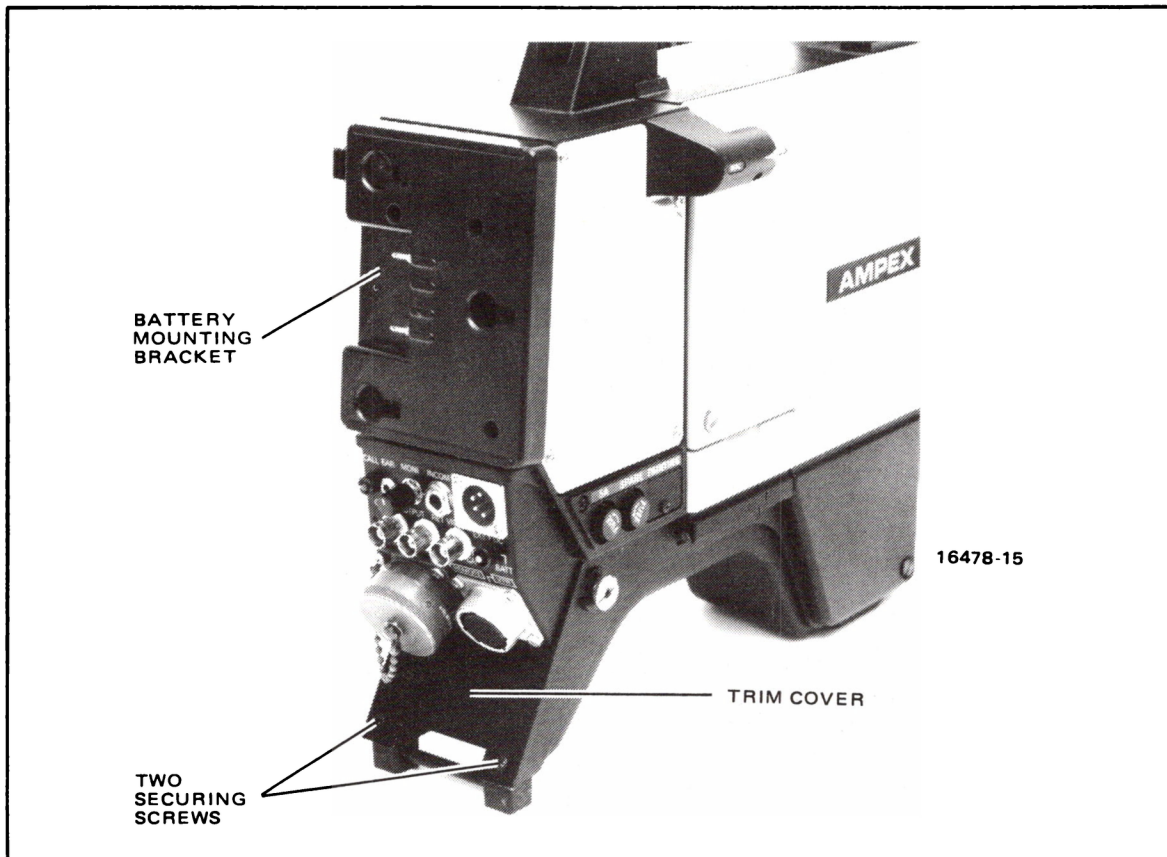

Figure 6-5. Attaching Trim Panel to FPC-10 Camera Frame
STEP 4 See Figure 6-5. Secure trim cover to camera frame with two screws.
STEP 6 To power genlock adapter/camera with battery power pack, attach battery to mounting bracket shown in Figure 6-5.